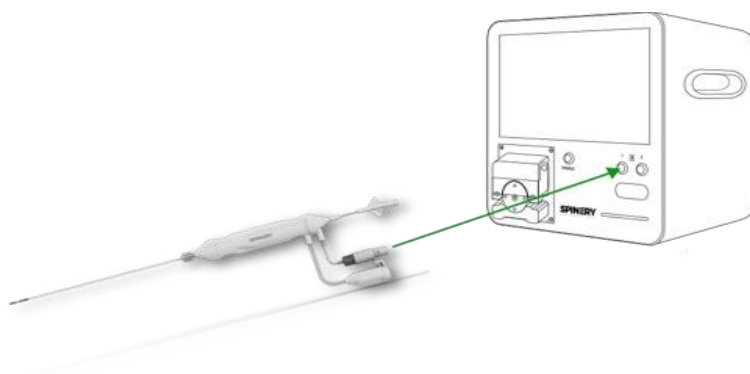

Figure 26 – Connecting the Probe to the RF Generator
1. Connect the probe to the generator (Figure 26).